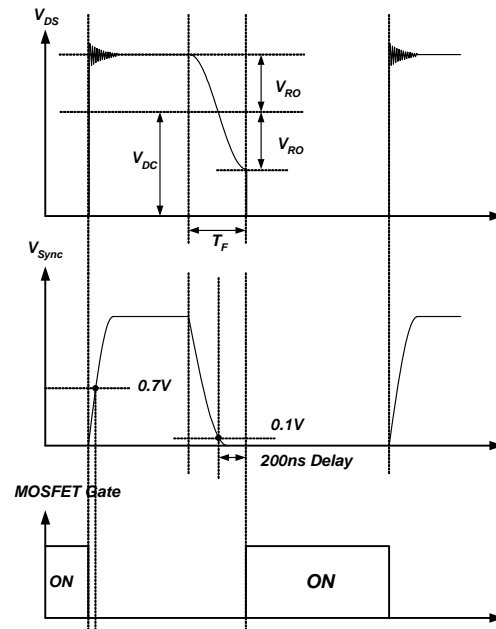

Figure 6. Quasi-Resonant Switching Waveforms
3. Synchronization: The FSQ-series employs a quasi-resonant switching technique to minimize the switching noise and loss. The basic waveforms of the quasi-resonant converter are shown in Figure 6. To minimize the MOSFET's switching loss, the MOSFET should be turned on when the drain voltage reaches its minimum value, as shown in Figure 6. The minimum drain voltage is indirectly detected by monitoring the V_{CC} winding voltage, as shown in Figure 6.